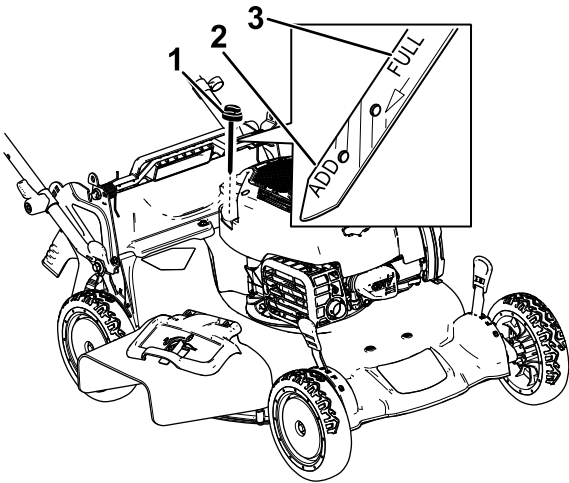

Figure 39
- 3. Remove the dipstick by rotating the cap counterclockwise and pulling it out (Figure 39).
10. Read the oil level on the dipstick (Figure 39).